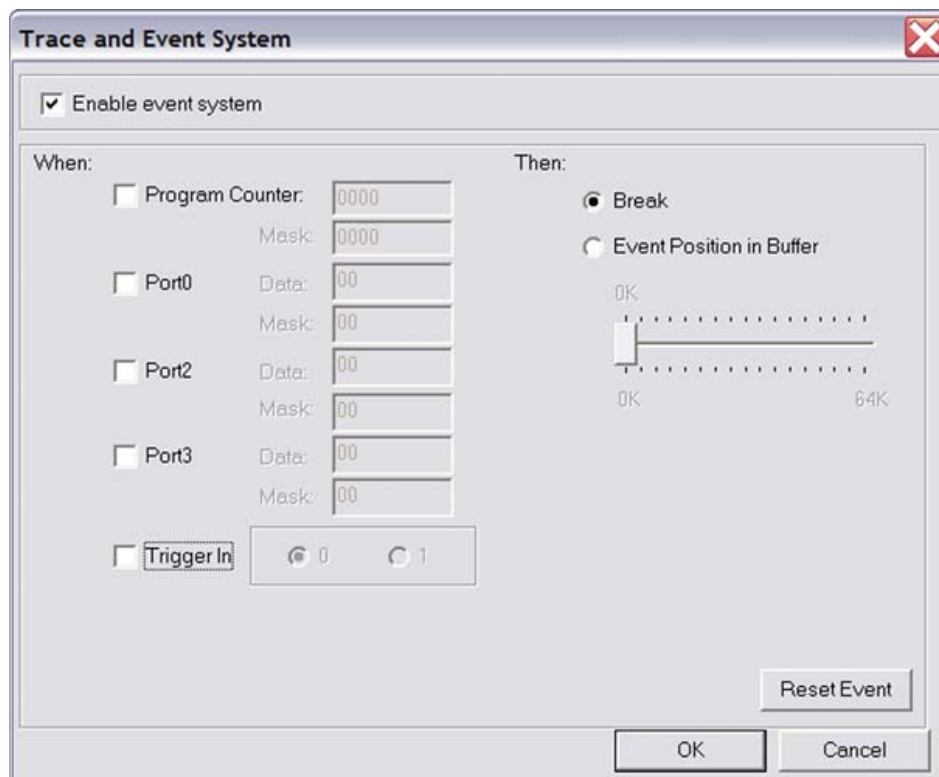

Figure 10. Trace and Event System Window
1. Select Tools --> Trace and Event System. The Trace and Event System window appears (Figure 10).